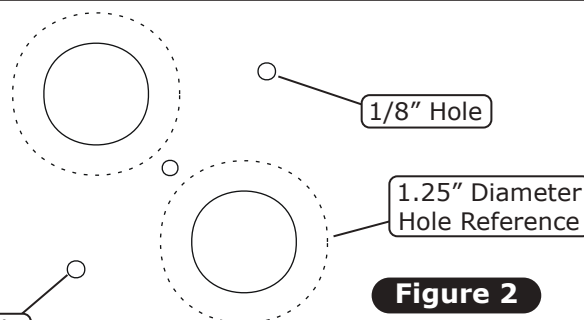

Figure 2
2. Mark and drill (2) 1/8" mounting holes (See Figure 2, below).
3. Increase the (2) heater hose holes up to 1.25" diameter (See Figure 2, below).